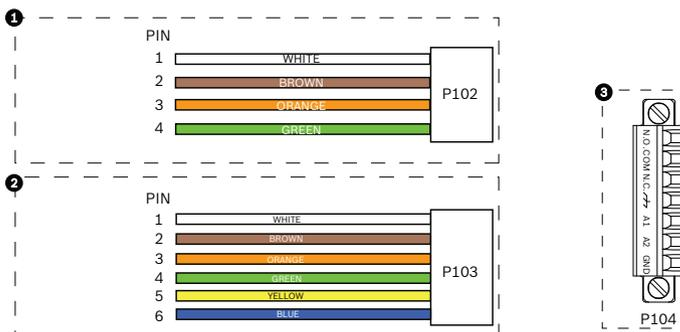

Figure 2.7 Alarm and Relay Connector Plugs
7. To connect supervised alarms and relays, attach the appropriate wires to their terminals on the P104 connector on the Pipe Interface Board (see *Figure 2.7*, above). In addition, refer to *Section 4 Alarms and Relay Connections*, page 45 for more details on wiring alarms and relays.